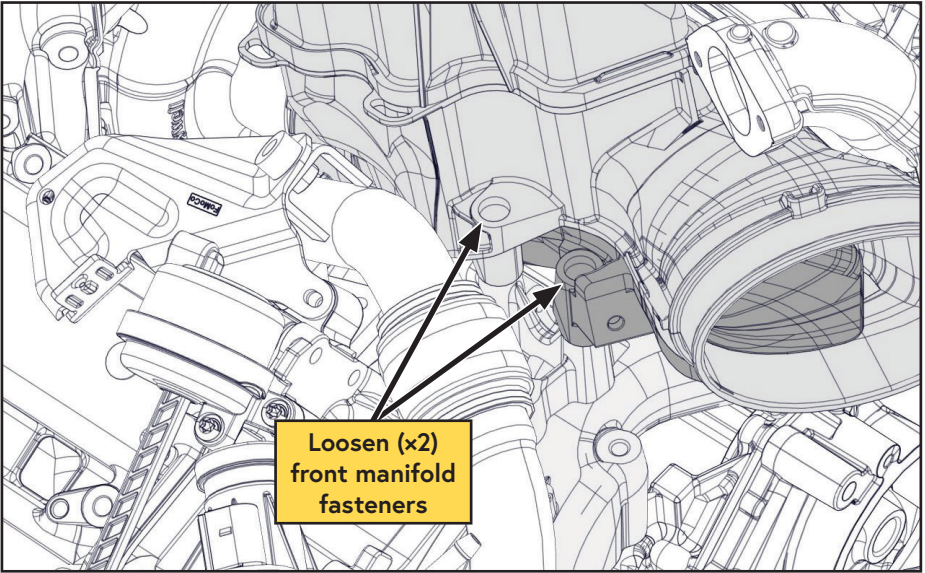

Figure 12 — Preparing for main bracket installation
- Loosen the (x2) front passenger side fasteners on the intake manifold (Figure 12).